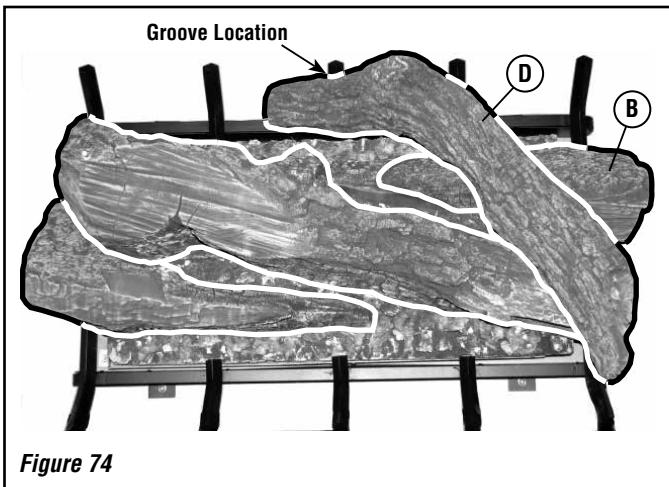

Figure 74
9. Place groove on underside of **Top Right Log D** over the grate as shown in **Figure 74**.